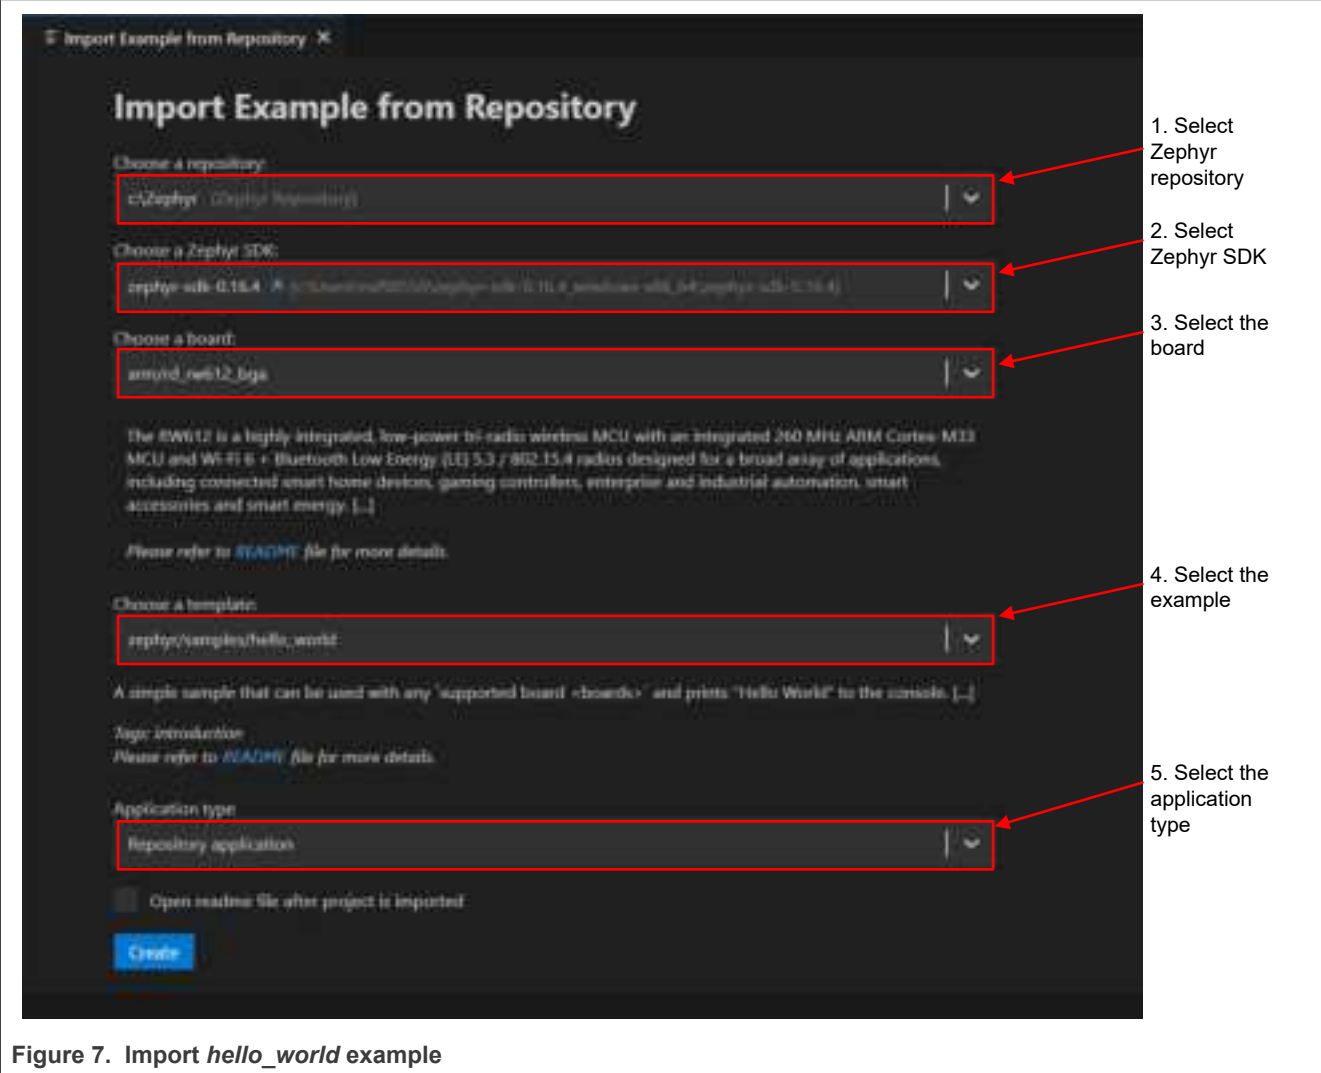

Figure 7. Import *hello_world* example
Step 7 - Choose a Zephyr repository, Zephyr SDK, board, and select a sample (Figure 7).